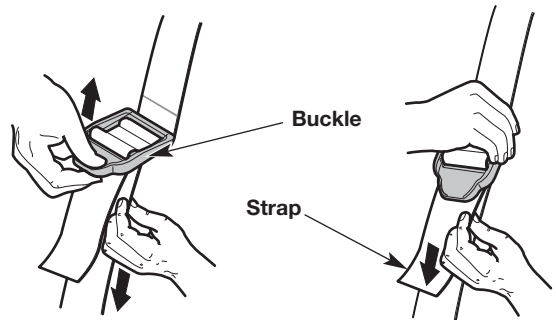

Fig. 15
6. Adjust the shoulder strap to fit the operator (Fig. 15). Pull the buckle up to loosen the shoulder strap. Pull the strap down to tighten the shoulder strap.